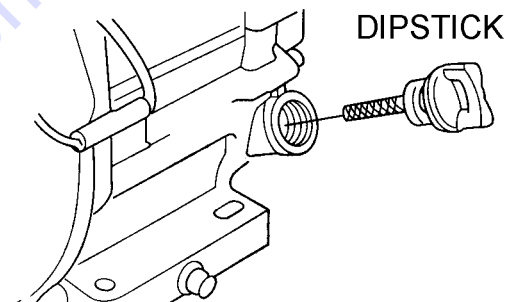

Figure 22. Engine Oil Dipstick Removal
2. Remove the dipstick from the engine oil filler hole (Figure 22) and wipe clean.